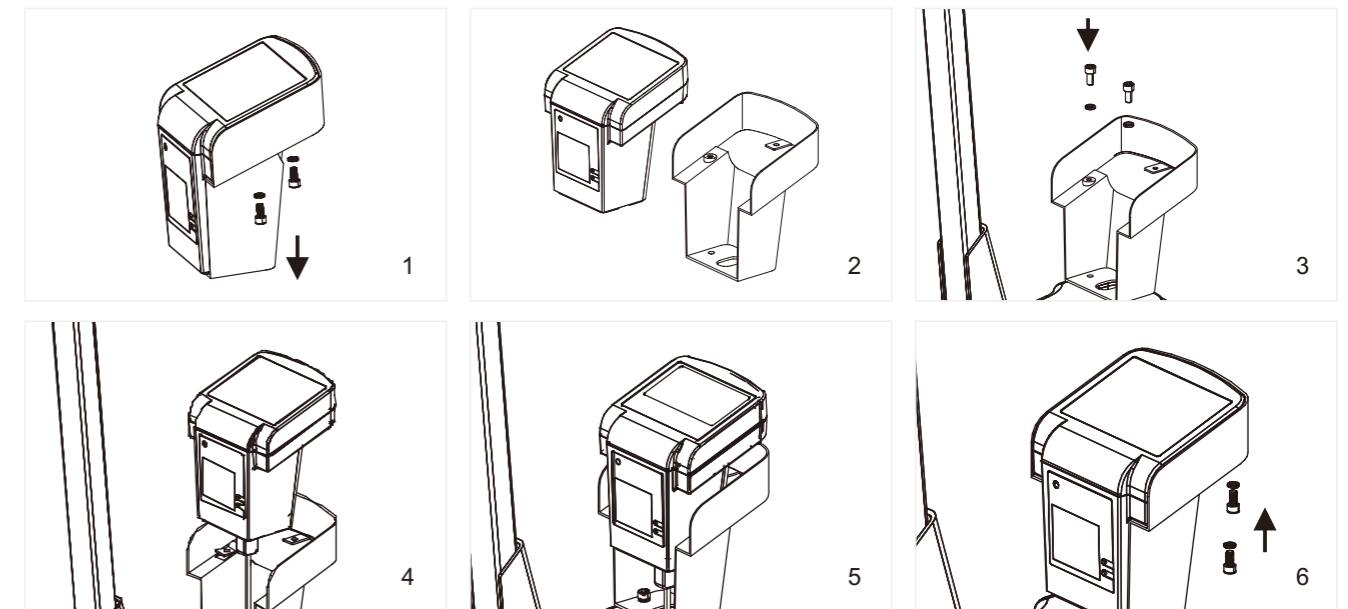

Fig. 1
- 3.3 Press the draw-bar (110), down, take away the pin(348) (See Fig. 1).